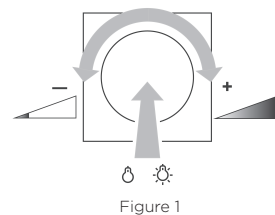

Figure 1
- Press the setting knob briefly: Light switches on or off (Figure 1).
- Turn the setting knob quickly: Brightness is changed quickly (Figure 1).
- Turn the setting knob slowly: Brightness is changed slowly (Figure 1).